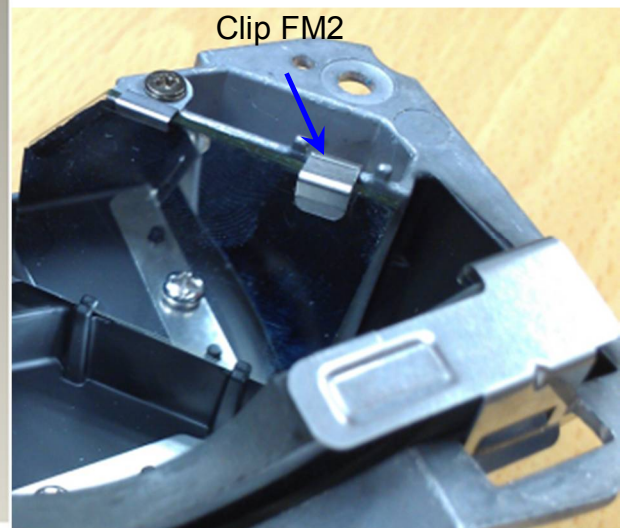

Fig. 2-10
- VII. Assemble "Clip FM2" on SUB HSG and lock with screw well. (Fig. 2-10)